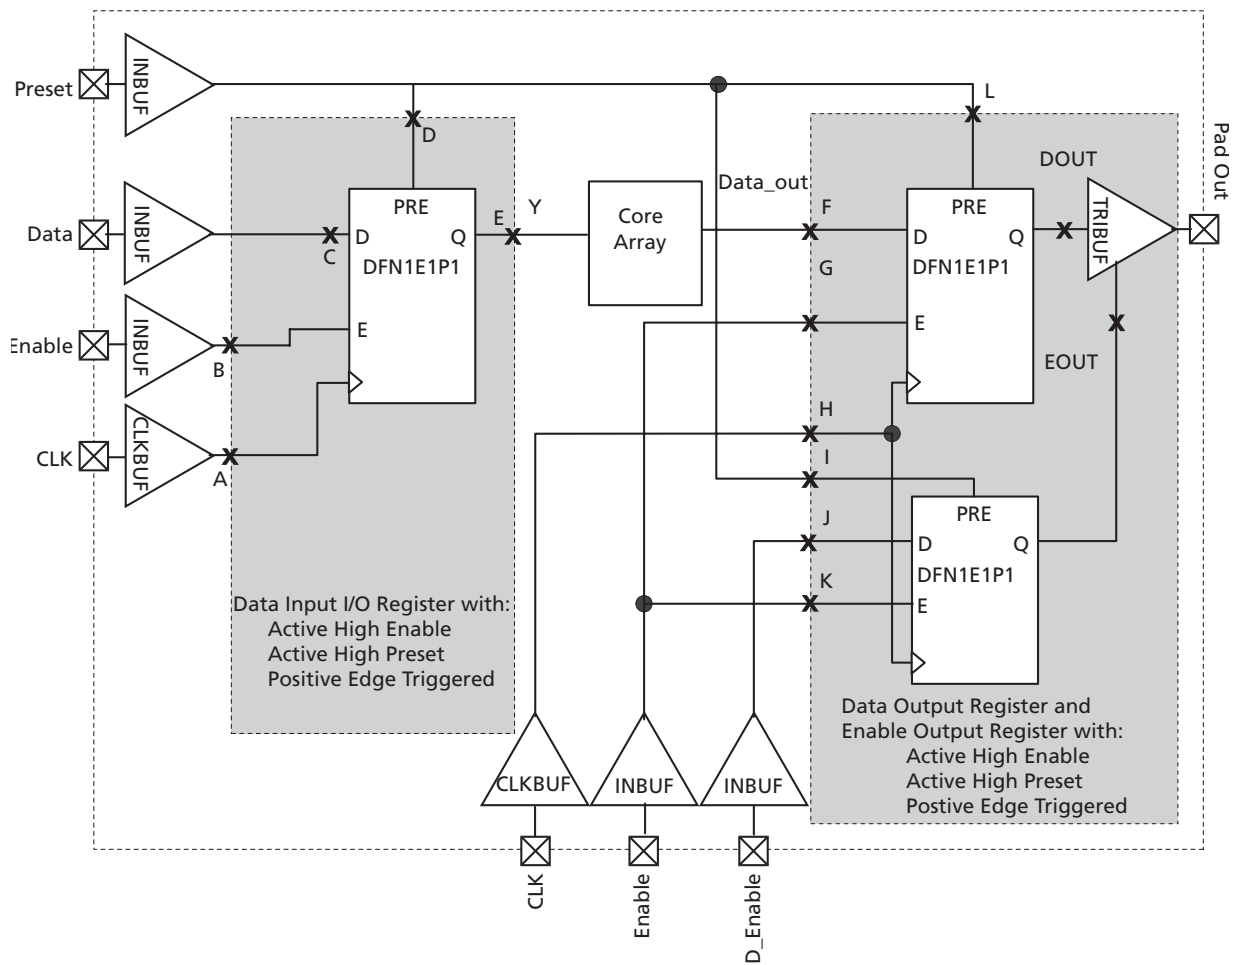

Figure 2-129 • Timing Model of Registered I/O Buffers with Synchronous Enable and Asynchronous Preset
*Note:* \*See Figure 2-129 on page 2-206 for more information.